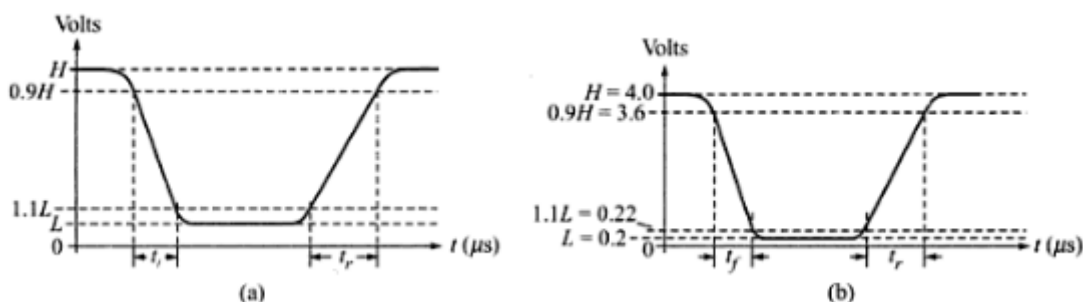

Figure 1.5: Switching in digital circuit
- If the digital circuit were ideal, it would change from high to low (or from low to high), in *zero time*. Thus, the output voltage would never have a value in the *forbidden range* (Figure 1.5).